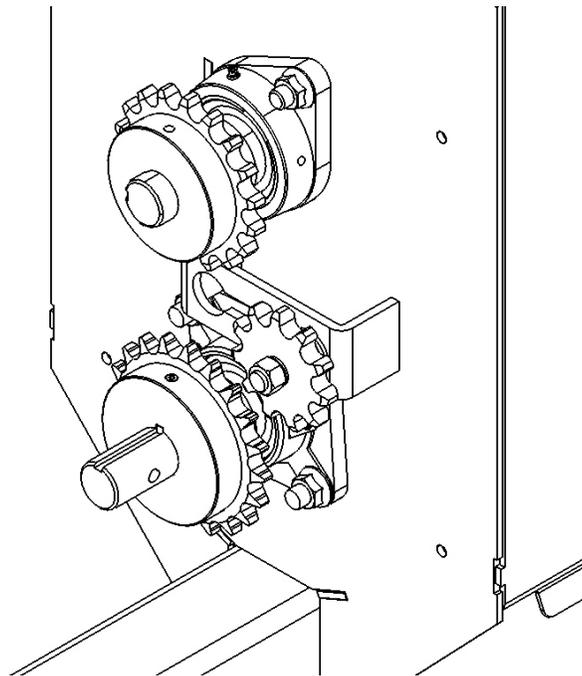

Fig. 13.1
Next, insert (2) 1/4" x 1" square keys into the top & bottom shaft. Slide the 18 tooth sprocket onto the top shaft & the 20 tooth sprocket onto the bottom shaft as shown in fig. 13.1. Use a measuring tape & measure the distance from the center of each sprocket to the infeed housing. Once sprockets are aligned, apply lock-tite to set screws & tighten.